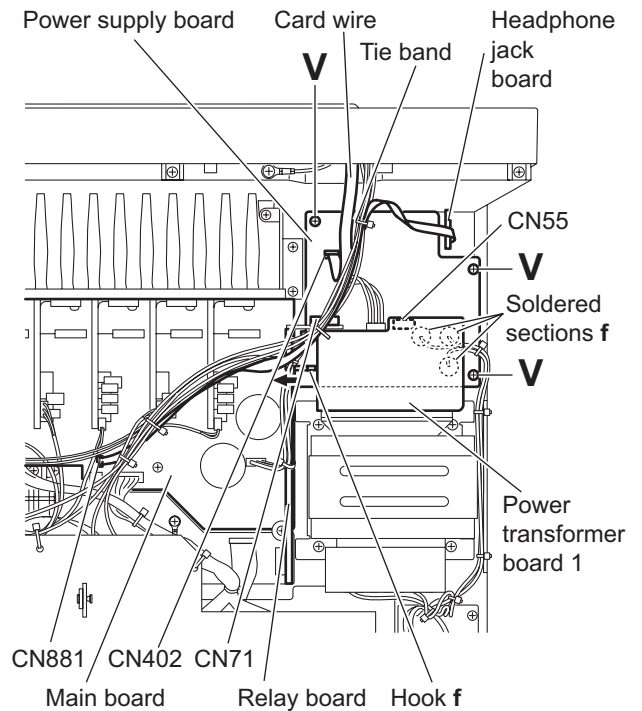

Fig.16
### 3.14 Removing the power supply board (See Fig.16)
### 3.15 Removing the headphone jack board (See Figs.16 and 17)
- (1) From the top side of the main body, disconnect the parallel wire from the connector CN881 on the main board. (See Fig.16)
- (3) Remove the three screws **V** attaching the power supply board. (See Fig.16)
- (4) Take out the headphone jack board from the inside of the chassis base while lifting the power supply board.